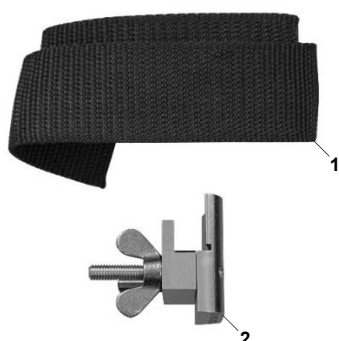

Fig. 1: Positioning the webbing.
- Place webbing '1' onto crankshaft pulley, under the stretch belt as shown in **Fig. 1**.